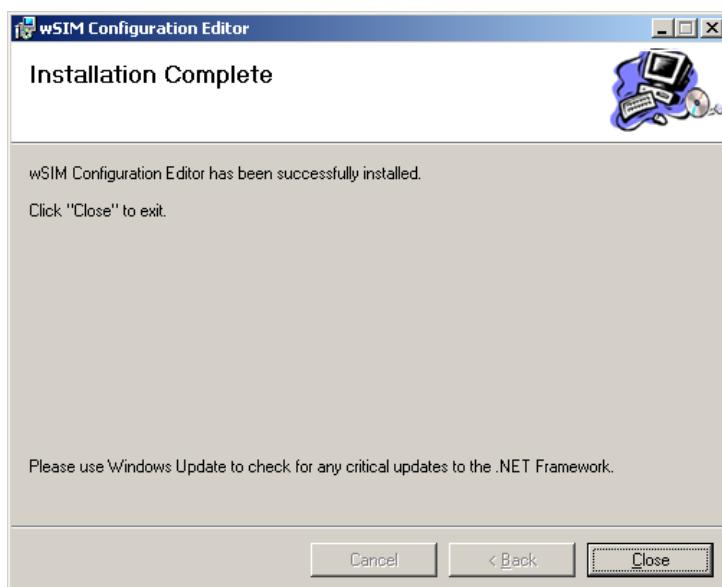

Figure 2-4: wSIM Configuration Editor Installation Complete
4. After the software has completed installation, the installation wizard displays a message indicating wSIM Configuration Editor Installation Complete, see Figure 2-4.